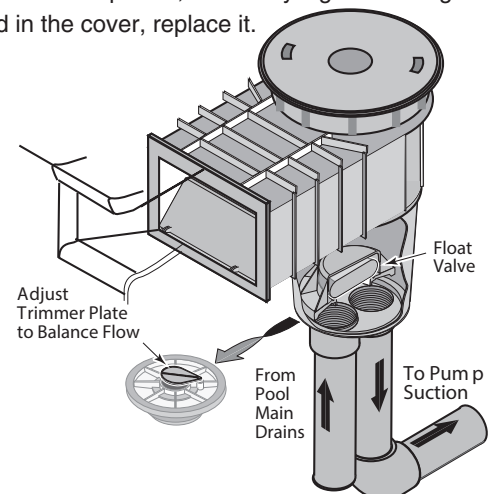

Figure 5: Typical installation with float valve.
Vacuuming pool (Figure 5): Remove cover, basket (and float valve and check valve if skimmer has them). Plug equalizer inlet. Replace basket and place vacuum plate on top of basket. Fill the vacuum hose with water, bring it in over coping or through skimmer throat, and attach the vacuum hose directly to the vacuum plate. Follow instructions in vacuum attachment or filter owner's manual for vacuuming operation. After vacuuming, remove hose and vacuum plate, unplug equalizer port, and reinstall check valve, float, basket, and cover. Be sure cover is solidly in the frame to prevent accidentally dislodging it. Fasten cover with screws provided if children use pool.
3. See Figures 5 and 6, Pages 2 and 3, for piping layout. See Table I, Page 3, for suction pipe sizing.